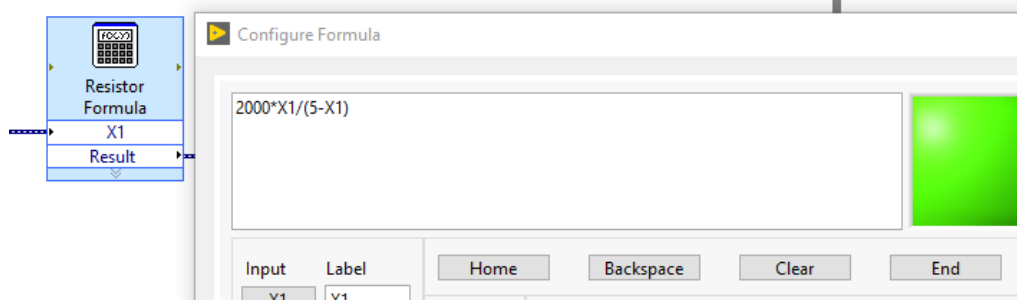
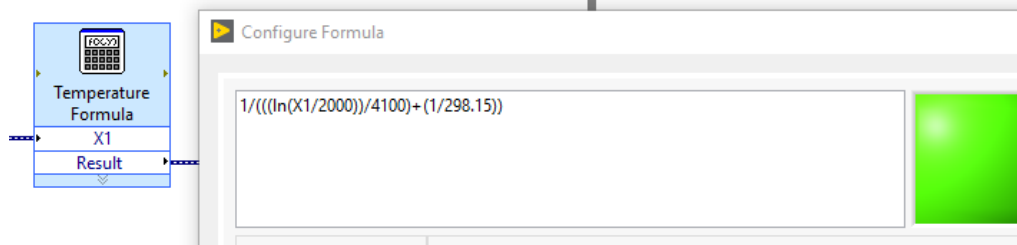

Figure 1.3 – Formula of Resistor
Figure 1.4 – Formula of Temperature
5. Formulas (Figure 1.3 and Figure 1.4)